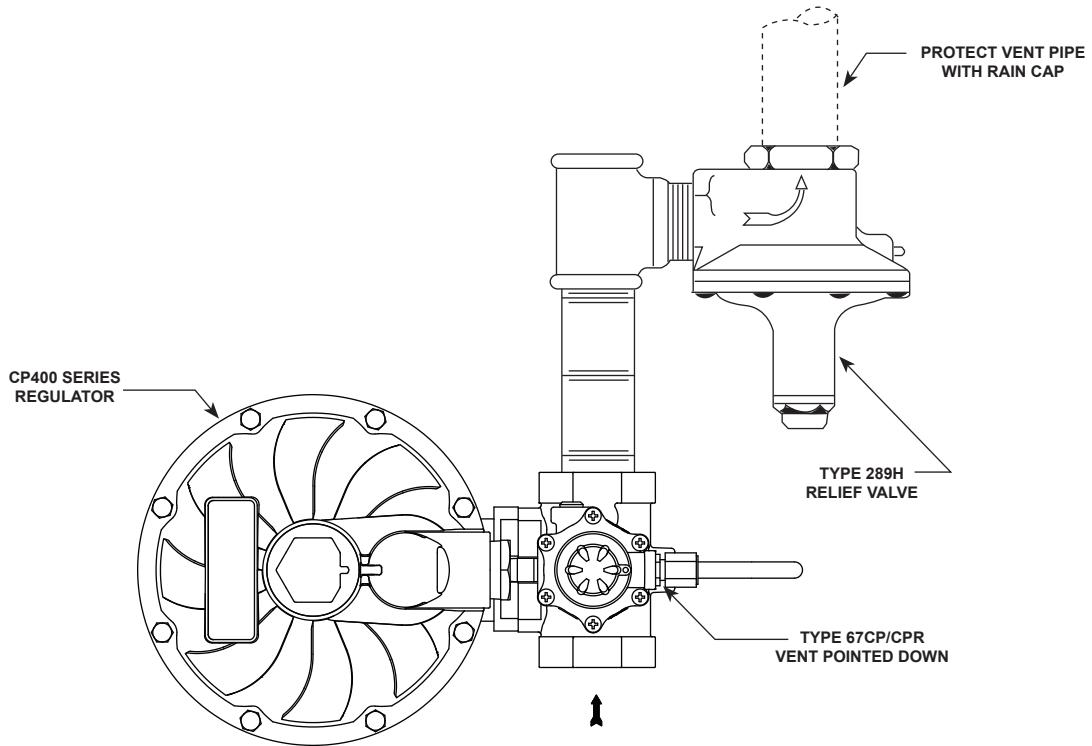

Figure 5. CP400 Series Regulator Installed the Vent Pointed Downward and with Type 289H Relief Valve for High Capacity Relief
All vents should be kept open to permit free flow of gas to the atmosphere. Protect openings against entrance of rain, snow, insects or any other foreign material that may plug the vent or vent line. On outdoor installations, point the spring case vent downward to allow condensate to drain (see Figures 5 through 7).
- **Install the regulator with the vent pointed vertically down, see Figures 5 through 7.** If the vent cannot be installed in a vertically down position, the regulator must be installed under a separate protective cover. Installing the regulator with the vent down allows condensation to drain, minimizes the entry of water or other debris from entering the vent and minimizes vent blockage from freezing precipitation.
If the regulator is used in conjunction with a Type 289H relief valve, it should be installed as shown in Figure 5. The outside end of the vent line should be protected with a rainproof assembly. The Type 289H is typically set 10 inches w.c. / 25 mbar higher than the outlet pressure setting of the regulator, up to 30 inches w.c. / 75 mbar outlet pressure. For pressure greater than this, set the Type 289H 0.75 psi / 0.05 bar higher than the outlet pressure setting of the regulator.